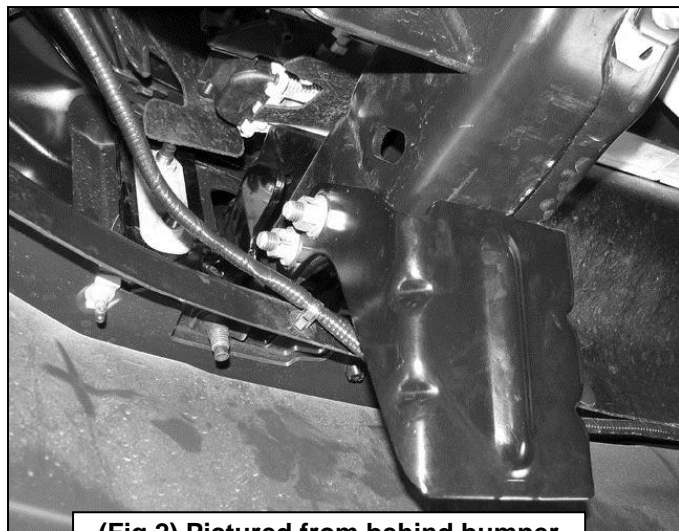

Fig 1
- Before beginning installation, measure the gap between the headlight assembly and the bumper cover on both sides of the vehicle, (**Figure 1**). Also note the gap between the grille shell and the bumper cover. Record these measurements as the installation requires removal of the bumper bolts and you will need these measurements to properly readjust the bumper height to its original position.